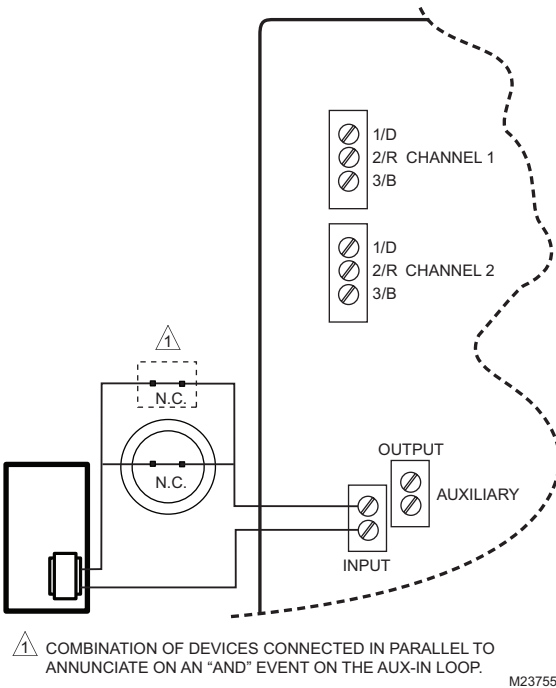

Fig. 14. Wiring the AUX-IN Terminal Block with Devices in Parallel (External Power Supply).
- For multiple sensors, connect in parallel to annunciate an “AND” condition on the AUX-IN loop. See Fig. 14 on page 10.